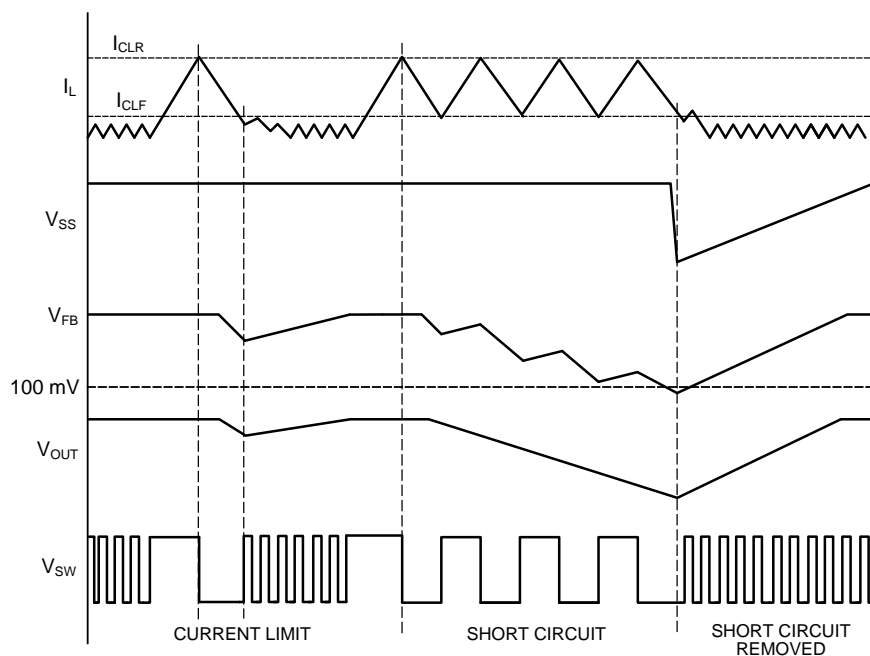

Figure 26. Current Limit Conditions
A current limit condition causes the internal soft-start voltage to ramp downward. After the internal soft-start ramps below the feedback (FB) voltage, nominally 0.6 V, FB begins to ramp downward, as well. This voltage foldback limits the power consumption in the device during a sustained overload. After the current limit condition is cleared, the internal soft-start voltage ramps up again. Figure 26 describes current limit behavior including  $V_{SS}$ ,  $V_{FB}$ ,  $V_{OUT}$  and  $V_{SW}$  waveforms.